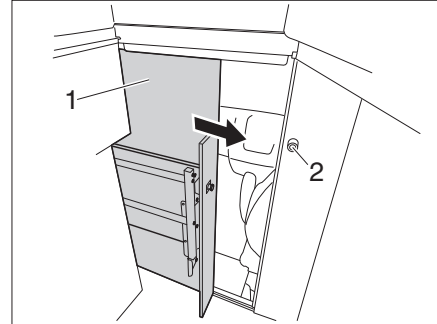

Fig. 57 Driver's cabin lock
▷ Only drive with the doors (Fig. 57,1) secured.
- Slide the door (Fig. 57,1) closed until it latches into the lock.
- Turn the handle (Fig. 57,2) anticlockwise until the door is locked.
- Turn the handle (Fig. 57,2) clockwise until the door is unlocked.
- Slide open the door (Fig. 57,1) and secure it.